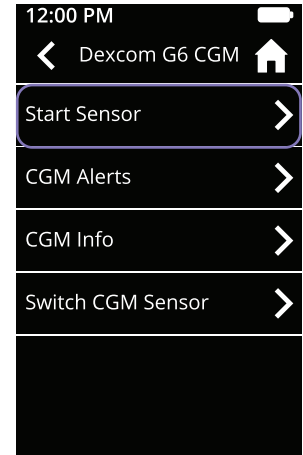

Figure 78
- f. Return to the CGM menu on your iLet Device. Tap **Start Sensor** (see Figure 78)